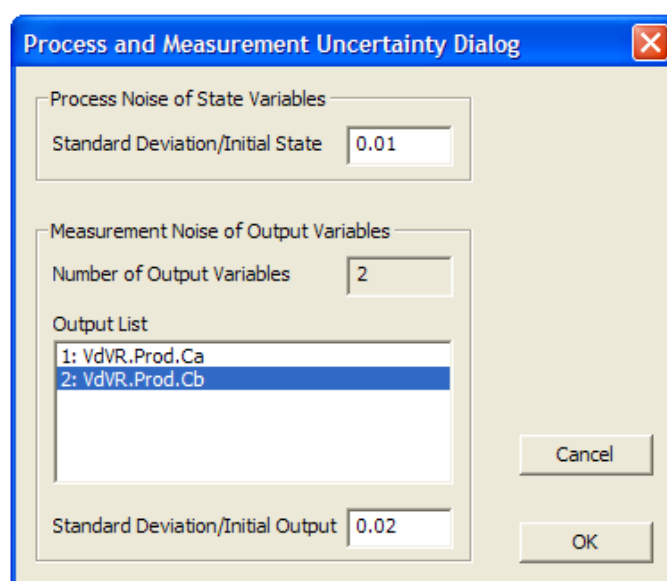

Figure 18: Process and Measurement Uncertainty Dialog Window
25. Perform the Uncertainty Quantification (UQ) analysis on the generated D-RM, using the ACM predictions as the plant data. Note: The UQ commands are available only when the DABNet model option is selected. For the UQ analysis, it is assumed that the process has certain noise in terms of standard deviation of state-space variables and the measurements of output variables also have noise in terms of standard deviations. During the UQ analysis, the measured output values are obtained from the ACM prediction with the noise term added based on the standard deviation provided by the user. To setup the noise levels of the state and output variables, issue the **UQ → Set Noise...** command. The “Process and Measurement Uncertainty Dialog” window as shown in Figure 18 displays.
Specify the ratios of standard deviations to the initial values of the state and output variables. Note: The initial conditions are provided by the snapshot file loaded to the D-RM Builder in Step 7. In the current version, the ratio of the standard deviation to the initial value of a state variable is assumed to be identical for any state variables, which is not necessarily true for a real-world process. The identification of process noise has not been built in to the D-RM Builder. The user can specify a single number for the noise level. For this tutorial, use the default value of 0.01 in the “Standard Deviation/Initial State” text box in the “Process Noise of State Variables” section. This means that the standard deviation of every state-space variable is 1% of its initial steady-state value. The measurement noises can be specified separately, one for each output variable. These noises are related to the sensitivity of the sensors and the electronics used to measure the output variables. For this tutorial, select the first output variable “1: VdVR.Prod.Ca” in the “Output List” and then enter 0.02 in the “Standard Deviation/Initial Output” text box. Then, select the second variable “2: VdVR.Prod.Cb” and then enter 0.02 as shown in Figure 18. Click “OK” to accept the noise specifications.